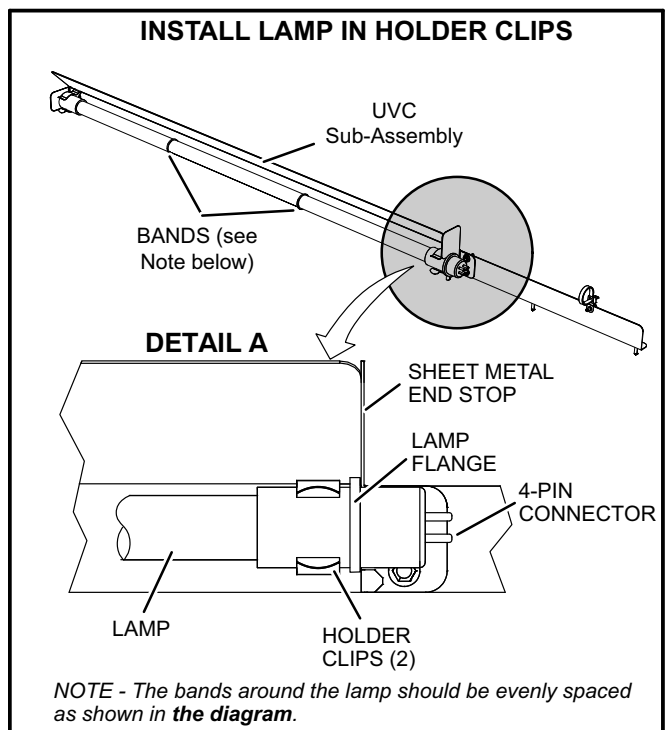

FIGURE 34
- 5- Remove the (2) mounting screws of the UVC assembly. Carefully slide the complete UVC assembly out through the blower access door.
- 7- Wear cotton gloves or use a cotton cloth when handling the new lamp. Place the new lamp in the holder clips of the UVC assembly. Verify that the lamp flange at the connector end is sandwiched between the lamp holder clip and the sheet-metal end stop (see figure 34).